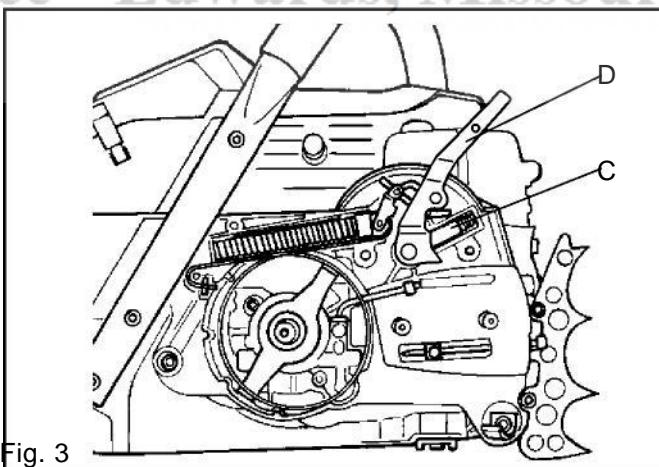

Fig. 3
6. Press down the retaining bush (C) and remove the lever arm (D). See fig 3.
9. Disconnect the brake-strap from the toggle joint. 10. Take out the retaining bush (C) and spring. See fig 3.
3. Grease and insert the lever arm (D). See fig. 3.
4. Grease and insert the retaining bush (C) and spring. See fig. 3.